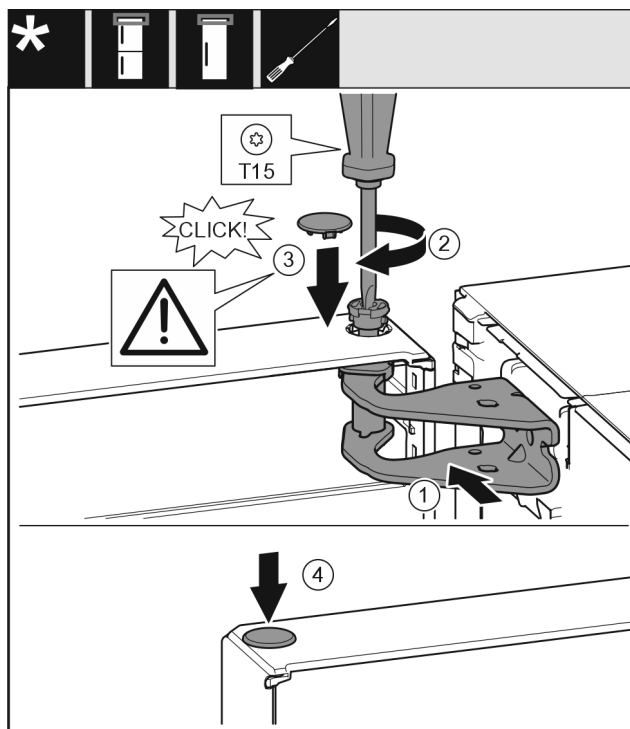

Fig. 27
- Align the top door with the opening in the swap bearing block Fig. 27 (1).
- Insert the bolt Fig. 27 (2) and use screwdriver to tighten it.
- Insert the cover Fig. 27 (3).
- Check that the cover Fig. 27 (3) is resting on the door.
- Insert the cover Fig. 27 (4).